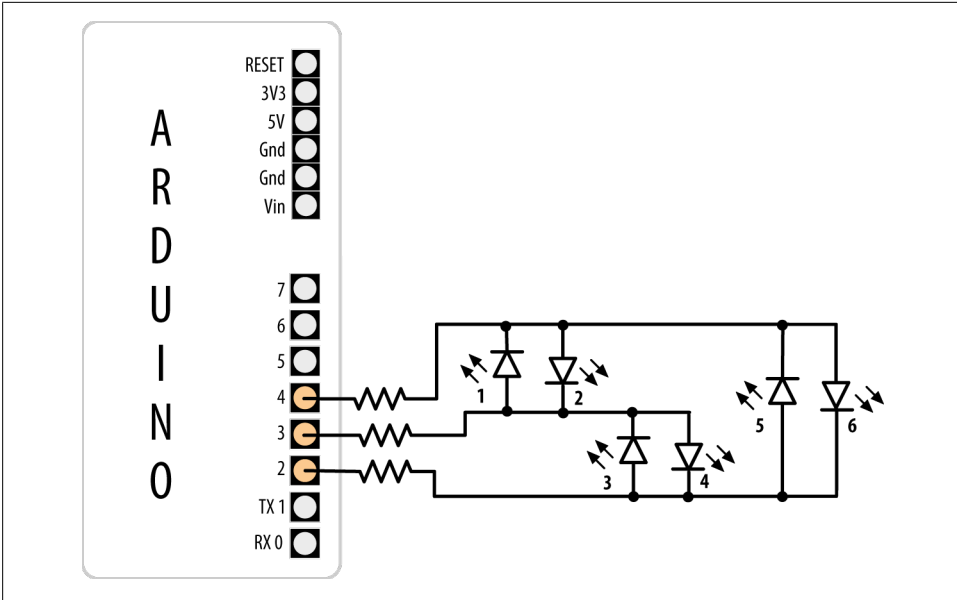

Figure 7-10. Six LEDs driven through three pins using Charlieplexing
*Charlieplexing* is a special kind of multiplexing that increases the number of LEDs that can be driven by a group of pins. This sketch sequences through six LEDs using just three pins (Figure 7-10 shows the connections):